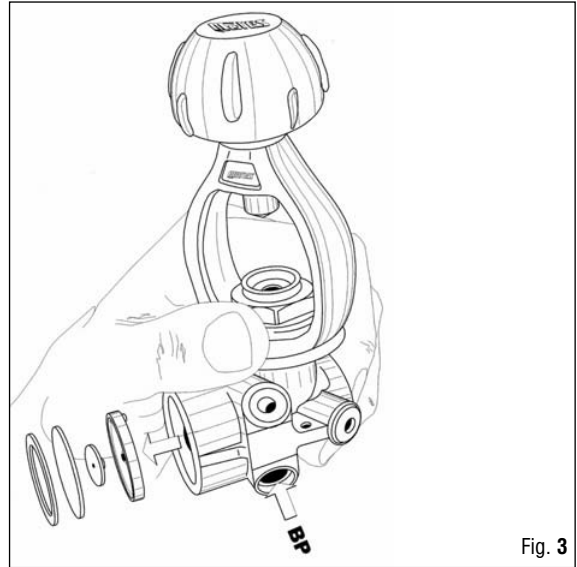

Fig. 3
12. Introducing low pressure air (below 7 bar) through a 3/8" LP port, remove the diaphragm (14), the poppet button (13), and the DFC washer (189) (Fig. 3).